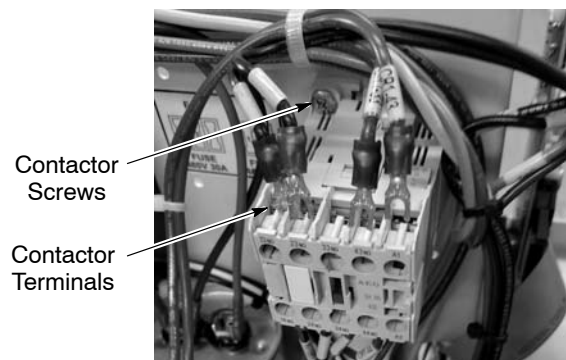

Figure 6 Removing Old Contactor
4. See Figure 6. Disconnect terminals from old contactor.